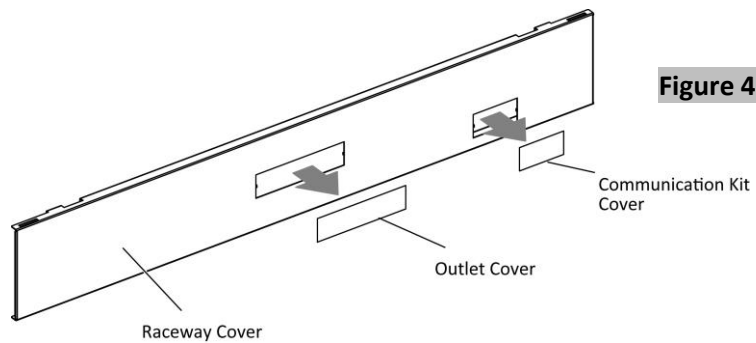

Figure 4
- 5. Pop out the outlet cover and communication kit cover of the raceway cover that is to be electrified, (Figure 4).